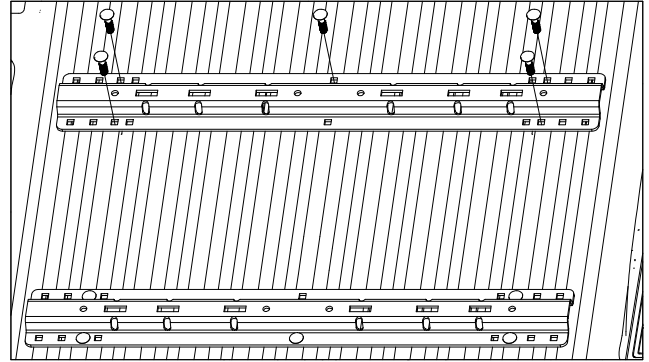

Figure G1: View looking down into bed from rear of truck.
- 1. Install the forward mounting rail.** Re-position the forward mounting rail over the drilled 9/16" holes in the bed. Install five 1/2" x 2" carriage bolts through the five drilled positions, as shown in figure G1. Under the bed place a U-shaped spacer between the side plate flanges and the bed around each of the five carriage bolts. Secure each of the five carriage bolts with an offset rectangle washer, lock washer, and nut. Hand tighten hardware only at this time.